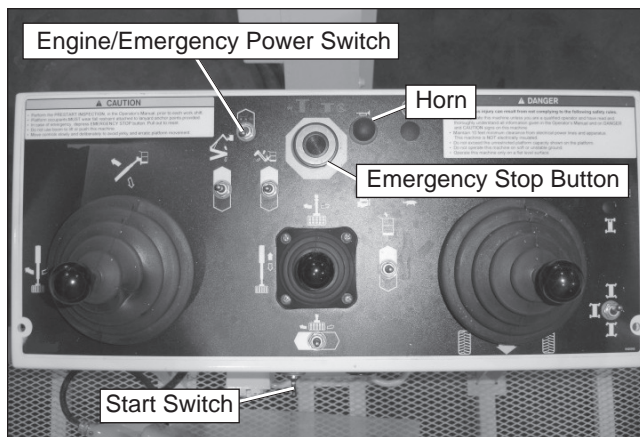

Figure 7.19 – Upper Controls
3. At the upper controls (refer to Figure 7.19), pull the emergency stop button outward.
Press the horn button (refer to Figure 7.19) to ensure that it sounds to warn personnel in the area.